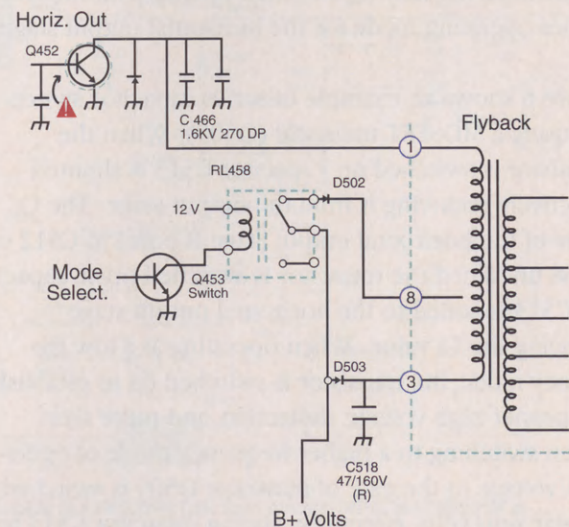

Fig. 4: Example of inductor switching in horizontal output stage for a frequency or mode change.
**Inductor Value Switching** – Inductor value switching is typically combined with capacitor switching in the horizontal output stage for mode or frequency changes. An example of an inductor or transformer value change in the horizontal output stage is shown in Fig. 4. B+ voltage is applied to the flyback either to pin 3 or pin 8 depending on the condition of the contacts of relay (RL458). If Q453 is switched on, the relay coil is energized and the B+ voltage is applied to pin 8 through the closed relay contacts. This reduces the number or flyback primary turns and the value of the primary winding inductance. The relay is energized in this monitor when switching from an operating mode for CGA at 15.7 kHz to EGA mode at 21.8 kHz.